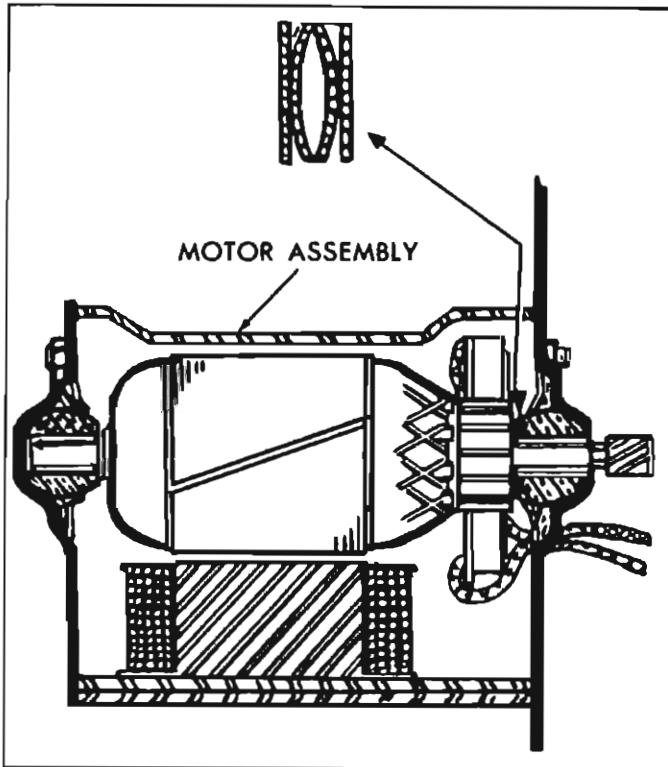

Fig. 8-14—End Play Washers Installed
**NOTE:** Lubricate armature shaft bushings with light machine oil. Armature end play is automatically adjusted by the proper installation of end play wave washers (fig. 8-14).